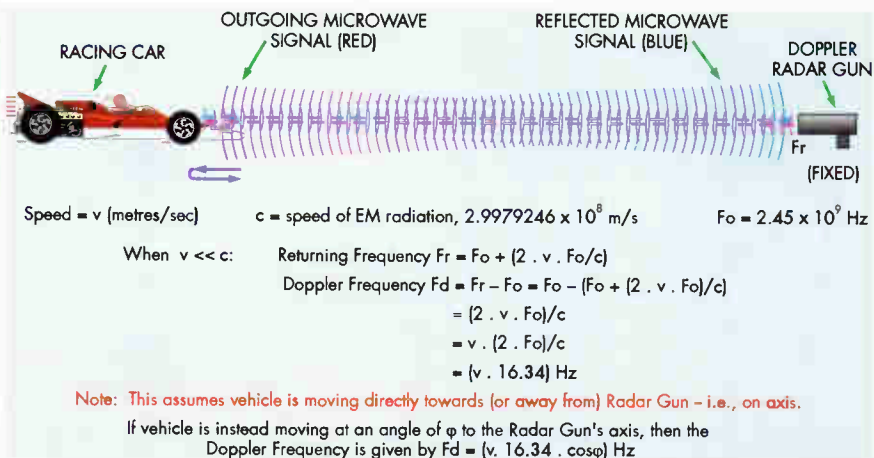

Fig.1: the basic principle behind a Doppler radar speed gun.
The basic idea is shown in the diagram of Fig.1. The radar gun is fixed in position and transmits a narrow beam of microwave radiation (with frequency F_0) towards the moving vehicle. This outgoing radiation propagates towards the vehicle at the normal speed of electromagnetic (EM) radiation in air - at 299,792,458m/s (metres per second); ie, the same as the speed of light (c).